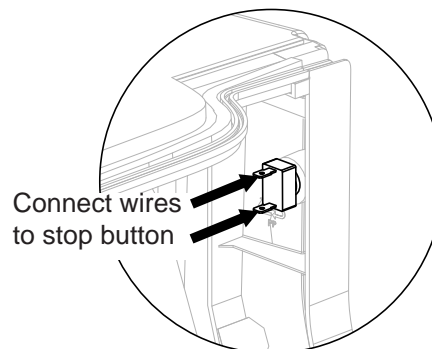

Figure 12. Connect Stop Button
6. Connect wires to stop button (Figure 12).